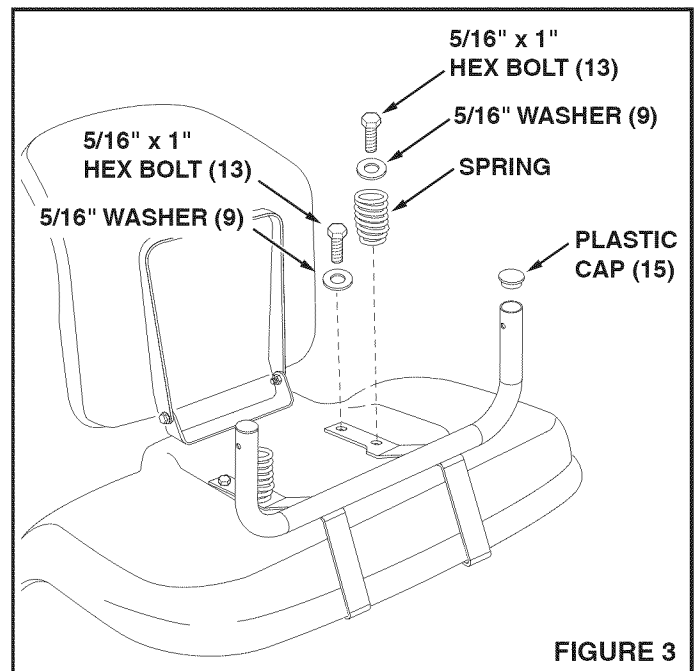

FIGURE 3
STEP 6: (Figure 3)
STEP 7: (Figure 3)
STEP 8: (Figure 3)
STEP 9: (Figure 3)